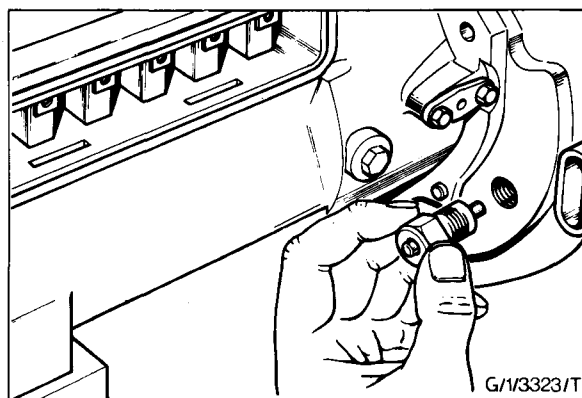

Fig. 20 - Fitting the Timing Tool to the Pump (Dorset)
2. Using the method described in the 'Phasing' section, set the camshaft at spill cut-off on number 1 element. Without disturbing the camshaft from this setting, screw the timing tool (TOOL NO. 23 504) into the aperture in the mounting plate and check that the spring loaded timing peg engages with the hole in the back of the drive gear (Fig. 20).